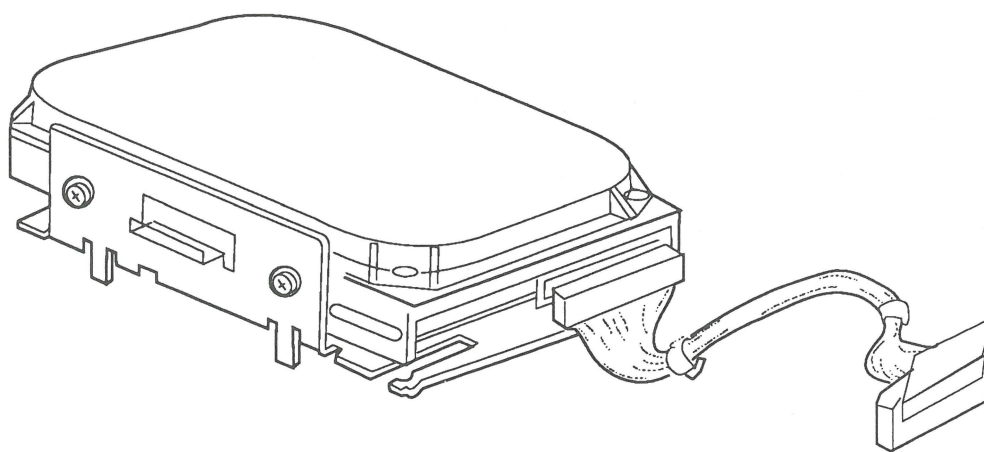

FIGURE 6
□ SCSI HARD DISK DRIVE (Figure 6)